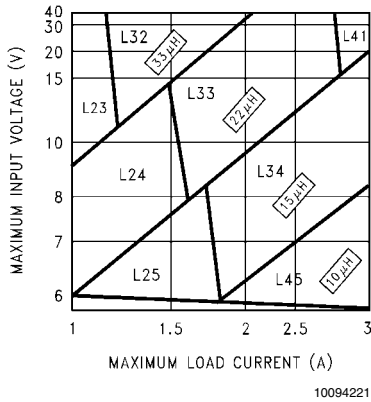
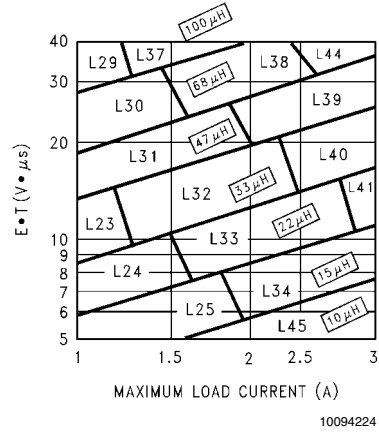

FIGURE 3. LM2670-3.3
FIGURE 6. LM2670-ADJ
Step 3: Determine the inductor required by using one of the four nomographs, *Figure 3* through *Figure 6*. Table 1 provides a specific manufacturer and part number for the inductor.
Step 5: Determine an input capacitor from Table 4 for fixed output voltage applications. Use Table 2 to find the specific capacitor type. For adjustable output circuits select a capacitor from Table 2 with a sufficient working voltage (WV) rating greater than $V_{in\ max}$, and an rms current rating greater than one-half the maximum load current (2 or more capacitors in parallel may be required).
Step 3: Use the nomograph for the 3.3V device, *Figure 3*. The intersection of the 16V horizontal line ($V_{in\ max}$) and the 2.5A vertical line ($I_{load\ max}$) indicates that L33, a $22\mu\text{H}$ inductor, is required.
Step 3: To use the nomograph for the adjustable device, *Figure 6*, requires a calculation of the inductor Volt•microsecond constant ($E \cdot T$ expressed in $V \cdot \mu s$) from the following formula:
Using *Figure 6*, the intersection of $27V \cdot \mu s$ horizontally and the 2A vertical line ($I_{load\ max}$) indicates that L38, a $68\mu H$ inductor, should be used.
Important Note: When using the adjustable device in low voltage applications (less than 3V output), if the nomograph, *Figure 6*, selects an inductance of $22\mu H$ or less, Table 6 does not provide an output capacitor solution. With these conditions the number of output capacitors required for stable operation becomes impractical. It is recommended to use either a $33\mu H$ or $47\mu H$ inductor and the output capacitors from Table 6.